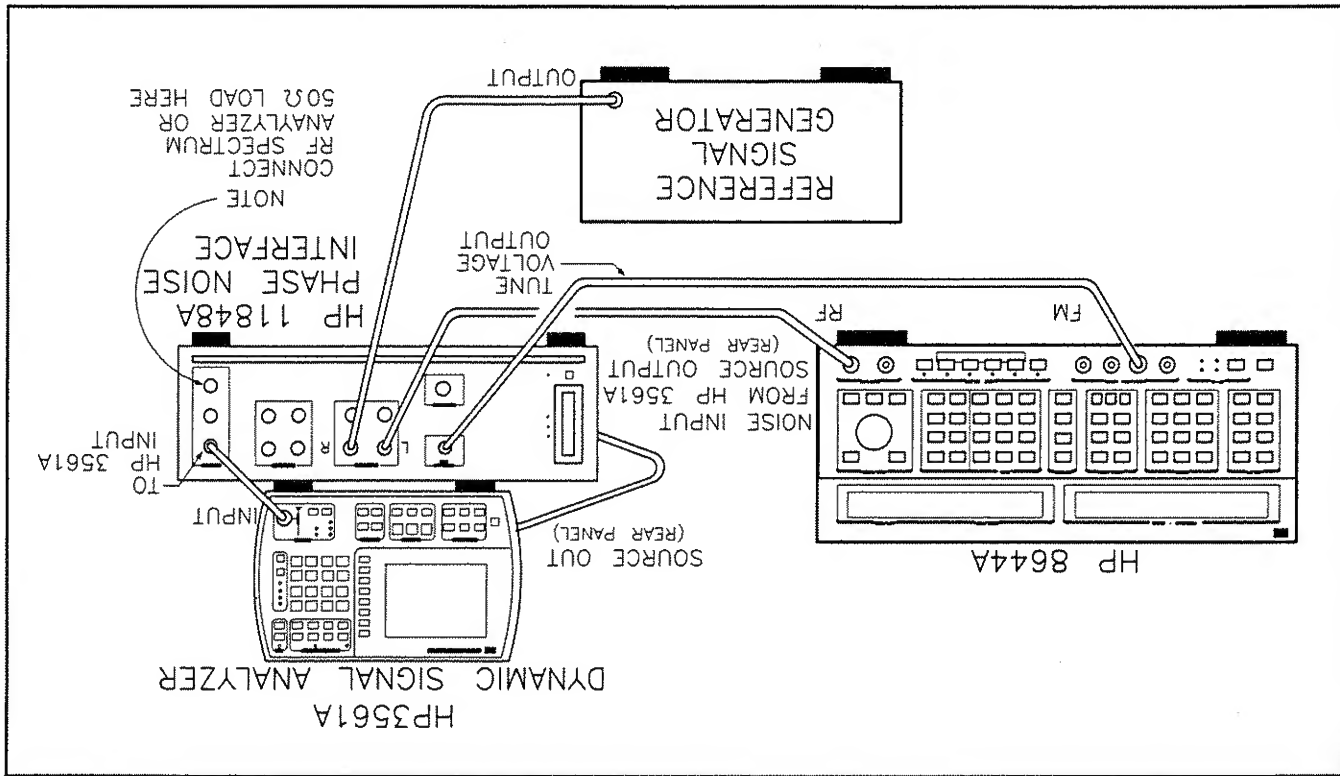

Figure 3-5. SSB Phase Noise Test Setup
1. Connect the equipment as shown in figure 3-5.